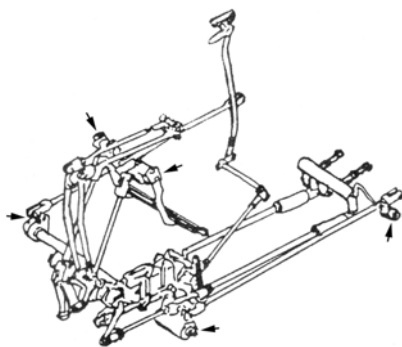

FIGURA 5-32
4. LUBRIFIQUE A ALAVANCA E O PEDAL DE FREIO – 6 PONTOS (FIGURA 5-32).